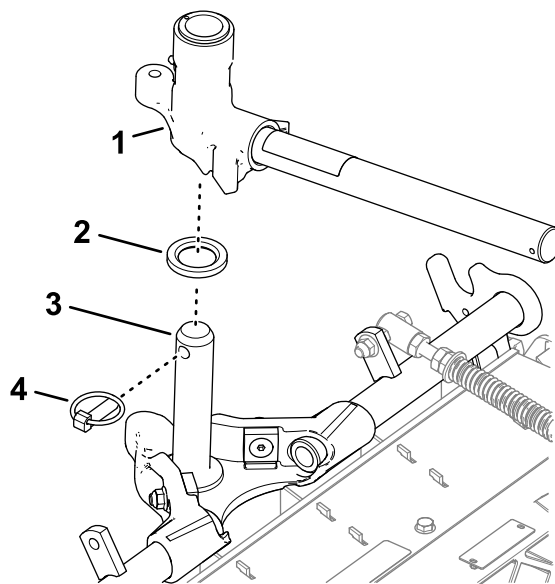

Figure 18
- Insert the lift-arm yoke onto the carrier frame shaft (Figure 18).